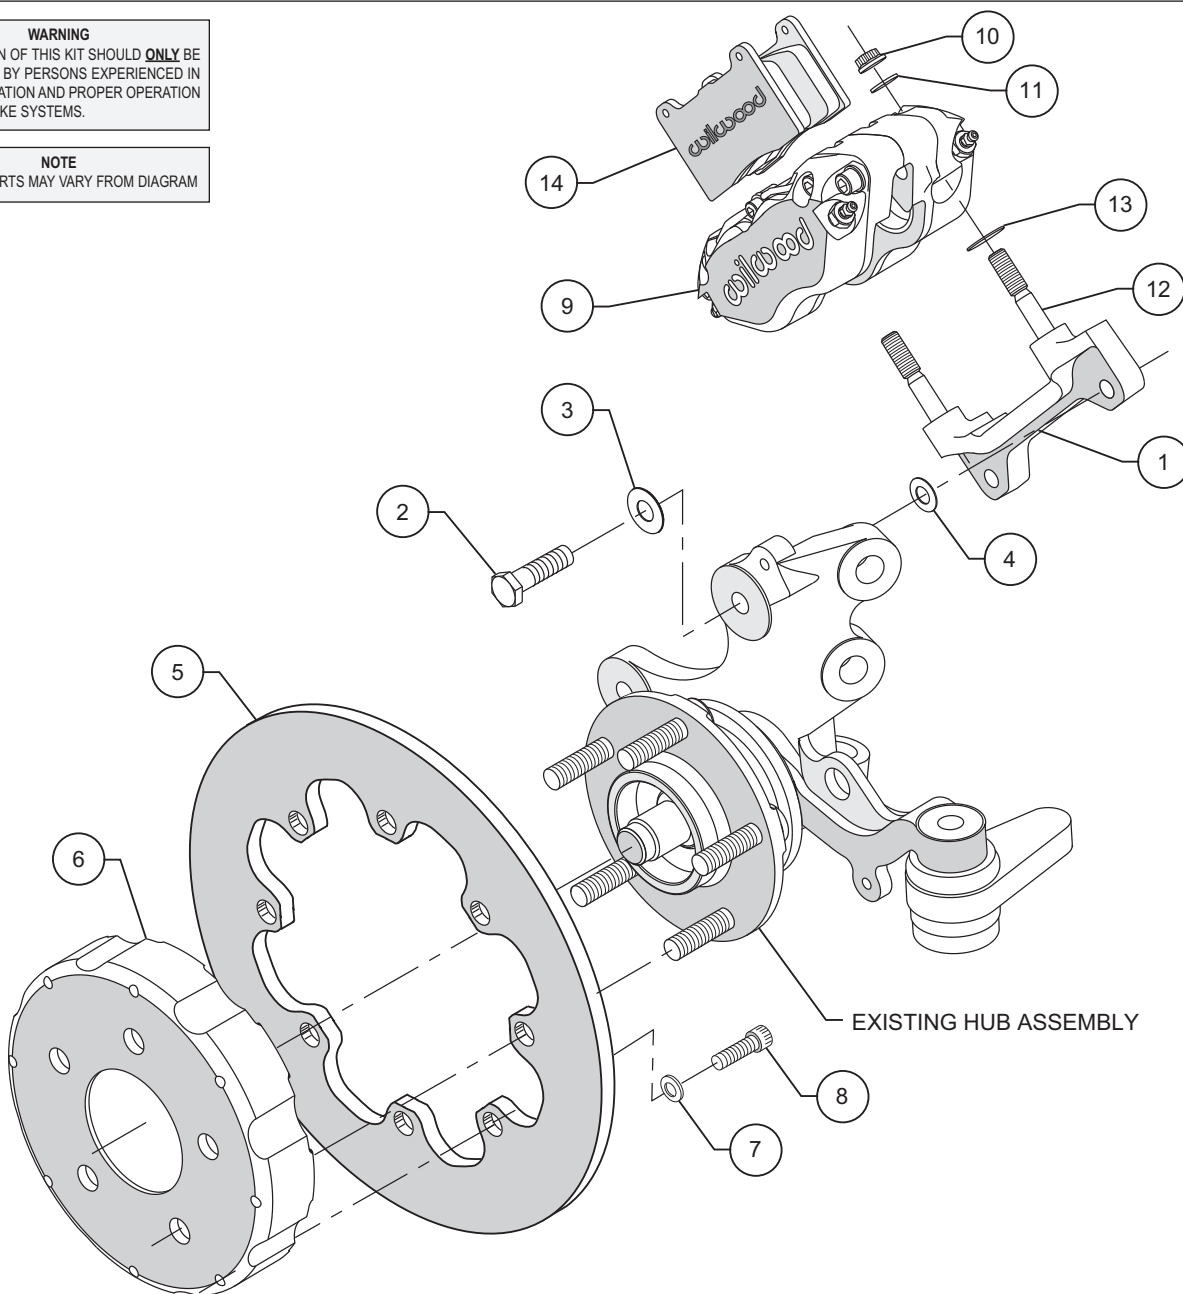
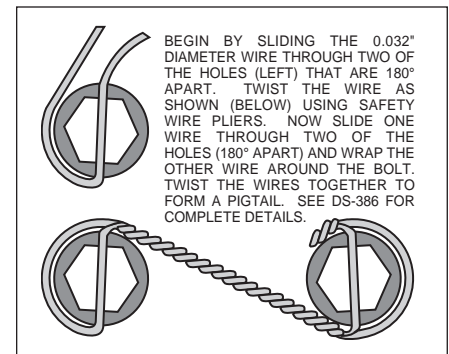

Figure 1. Typical Installation Configuration
Figure 3. Safety Wire Diagram
- The caliper mount bracket assembly (1) should be installed first with clean, dry threads on the mounting bolts. Install the bracket on the inboard side of the spindle by sliding bolt (2) through flat washer (3), and spindle ear from the outboard side of the spindle. Place shim washer (4) between the bracket (1) and the spindle (see figure 1). The bracket must tighten squarely against the inboard side of the caliper mount bosses on the spindle body. Inspect for interference from casting irregularities, machining ridges, burrs, etc. Use one thin shim (4) between the bracket and spindle during initial trial fitting. Later, after the caliper, pad, and rotor alignment has been checked, and any necessary shims have been put in place, the mount bolts should be coated with red *Loctite*® 271 and torqued to 65 ft-lbs.
- Assemble the rotor (5) to the hat (6) with the bolts (8) and washers (7) provided in the configuration pictured in figure 1. Be sure all bolts thread in smoothly and are snug. Then, torque all bolts in an alternating sequence to 180 **in-lbs**. Safety wire bolts (8) using standard 0.032 inch diameter stainless steel safety wire as shown in Figure 3. Please refer to Wilwood's data sheet DS-386 (available at [www.wilwood.com/pdf/ds386.pdf](http://www.wilwood.com/pdf/ds386.pdf)) for complete safety wire installation instructions.
- Lubricate caliper mounting studs (12) and nuts (10) with lightweight oil. Install one shim (13) over each stud (12) on the radial mount bracket. Slide the caliper (9) in place over the studs and rotors and install the washer (11) and lock nut (10) to hold the caliper in place. The caliper bleed screws should be pointing up. Snug the lock nuts (10) and check that the rotor (5) is centered in the caliper (9). Add or subtract .015" shims (4) as necessary between the mount bracket and the spindle to center the caliper.
- Remove the caliper center bridge pad retainer bolt, nut, and tube from the caliper. Slide the brake pads (14) into place. They should install easily without interference. Check that the outside radius of the brake pad is aligned with the outside diameter radius of the rotor face. Add or subtract shims (13) between the caliper and mount bracket to gain the proper alignment. Reinstall the center bridge pad retainer tube, bolt, and lock nut. The locknut should be snug without play in the bolt or tube. Be cautious not to over tighten.
- Once all clearances have been checked, remove the wheel, caliper, hat, and rotor from the spindle and hub. Secure the caliper mounting bracket (1) to the spindle using red *Loctite*® 271. Torque the bolts to 65 ft-lbs. Reinstall the hat and rotor assembly and again use several lug nuts to hold it in place. Reinstall the caliper, torque the caliper nuts (10) to 30-35 ft-lbs.